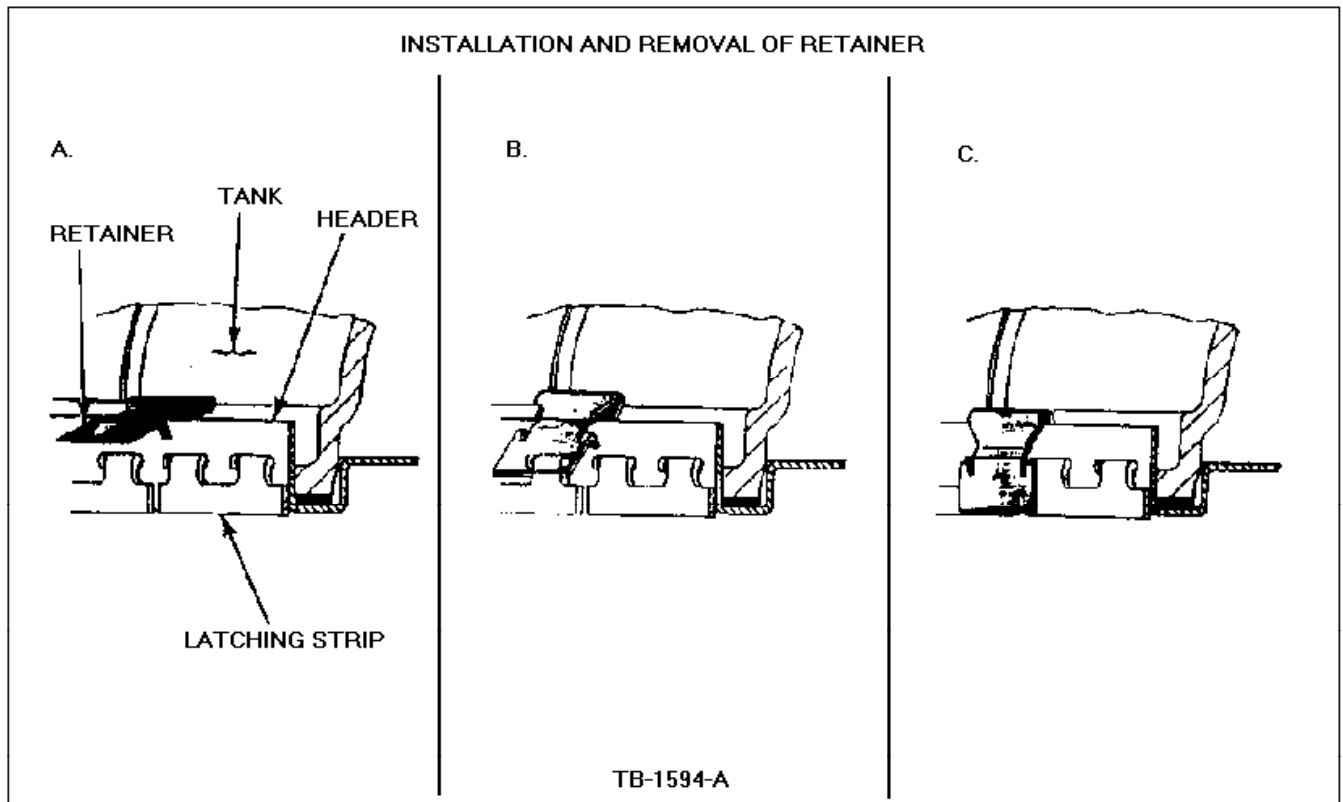

Figure 12 - Article 90-5-16
- Install one (1) retainer on each side of the header so that it engages both strips, Figure 12.